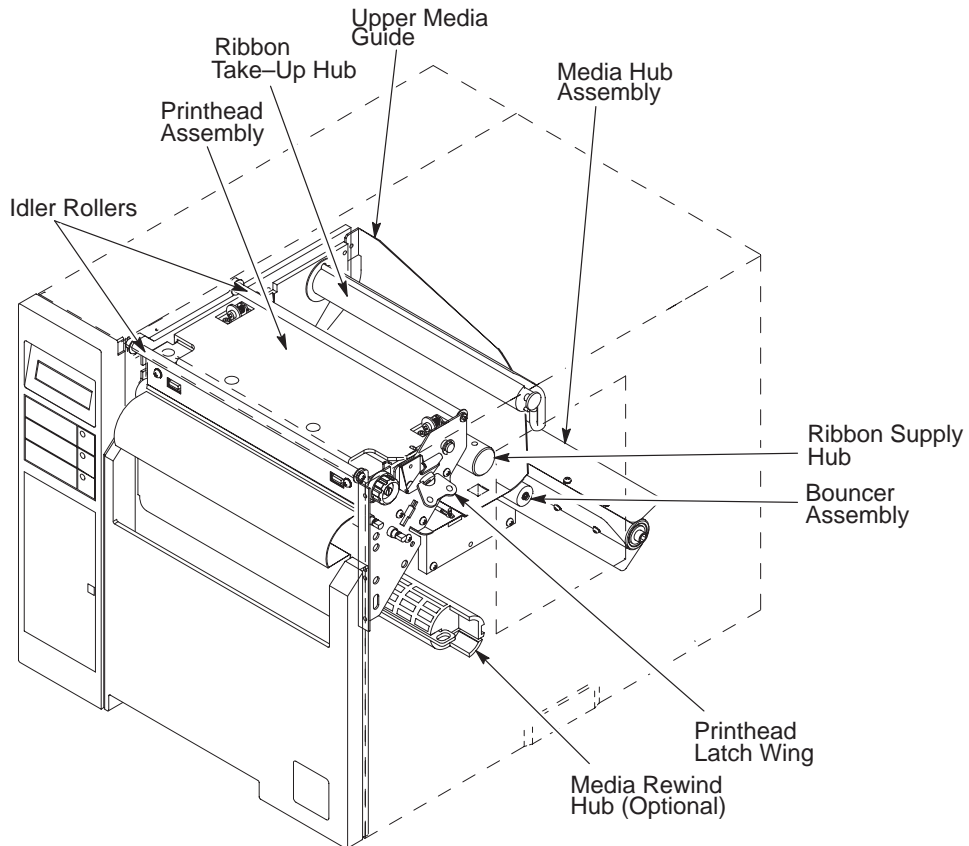

Figure 2–5. Major Internal Components
4. Route the media under the bouncer assembly and between the upper and lower media guides, as shown in Figure 2–7.